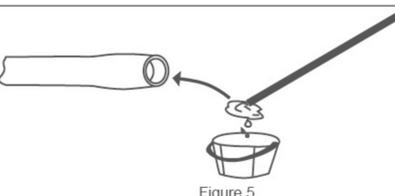

Figure 5
- d. Lubricate the inside of the RO pressure vessel with water and glycerin. About 10 ml of glycerol is required for each pressure vessel. If the viscosity of glycerol is high, it can be diluted with water to ensure adequate wetting. Use a mop or similar tool to lubricate the entire pressure vessel (Figure 5).